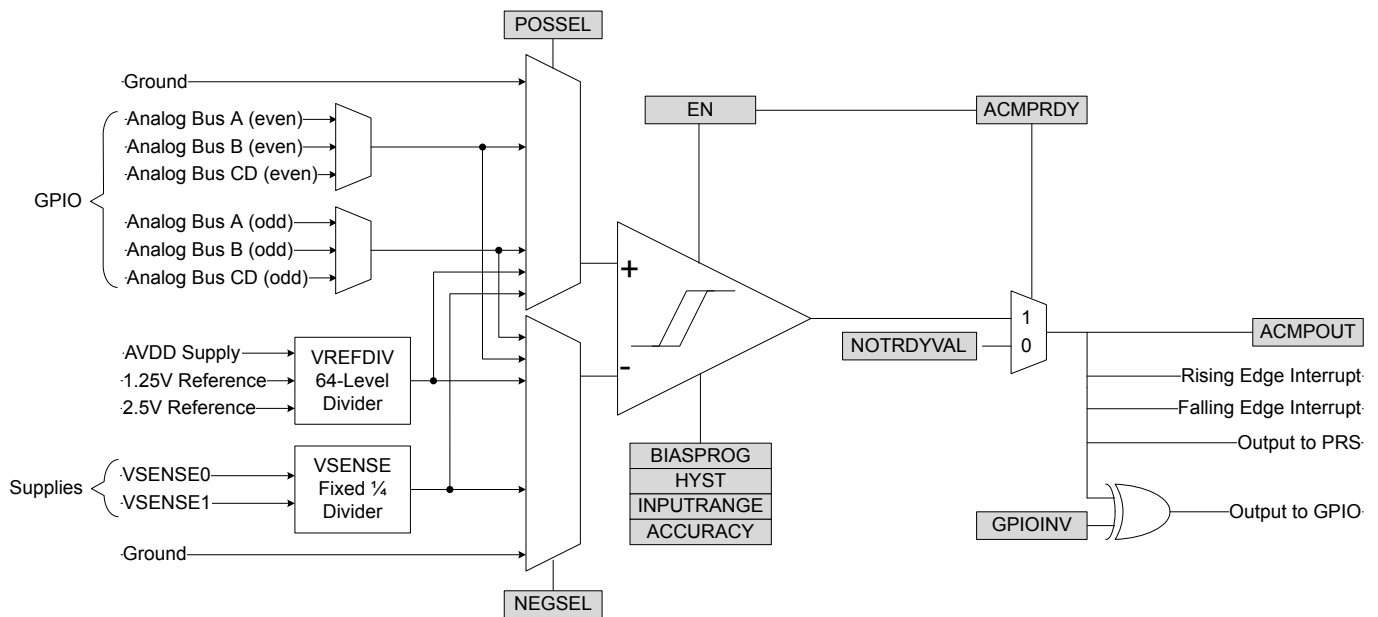

Figure 28.1. ACMP Overview
An overview of the ACMP is shown in Figure 28.1 ACMP Overview on page 1217.
The ACMP can be used to monitor supply voltages. This is done by selecting VSENSE01DIV4(LP) or VSENSE11DIV4(LP) for either POSSEL or NEGSEL. Note that the input to the comparator core will be divided by 4, as illustrated in Figure 28.1 ACMP Overview on page 1217. To reduce energy consumption, a sample/hold circuit can be used to periodically sample the power supplies. To enable this, select VSENSE01DIV4LP or VSENSE11DIV4LP in POSSEL / NEGSEL. Because the sample/hold feature uses the comparator in a non-continuous fashion, enabling this will increase response times and reduce the accuracy of the comparator. The connections between VSENSE0 and VSENSE1 to power supplies are summarized in the table below.